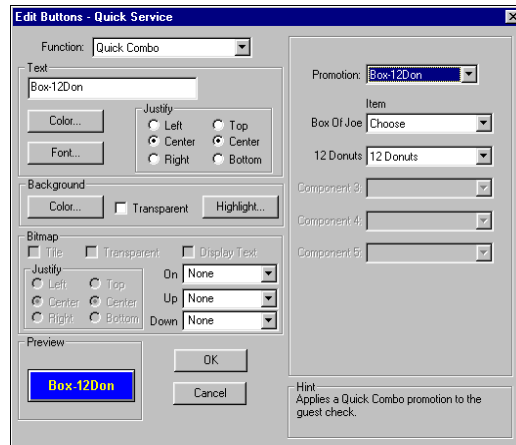

Figure 5-96 Quick Combo Button Function
1. Select **Quick Combo** from the **Function** drop-down list. Additional options display, as shown in Figure 5-96: